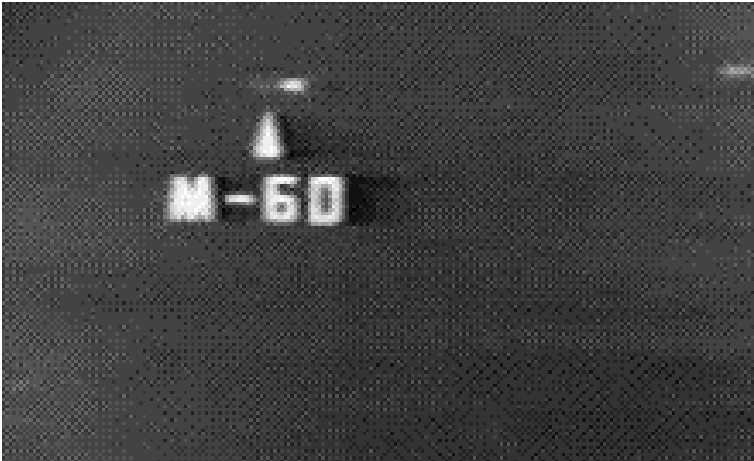

Figure 6-1-10: Tank in Light Fog at 2100 m
37. Figure 6-1-10 shows a tank at three ranges in heavy fog.